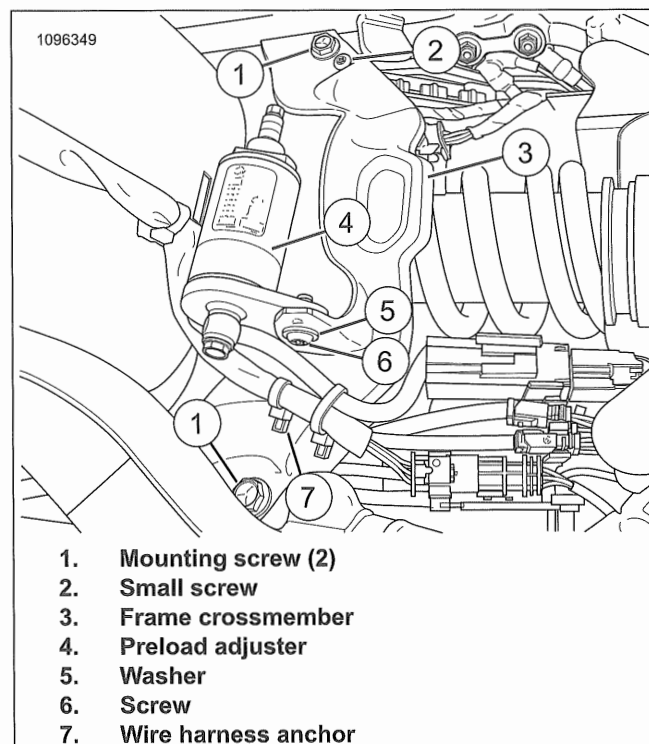

Figure 3-147. Frame Crossmember
1. See Figure 3-147. **If equipped with hydraulic under seat adjust shock:**
- a. Remove screw (6) and washer (5).
- b. Move preload adjuster (4) forward.
2. Remove wire harness anchor (7).
3. Remove small screw (2).
4. Remove mounting screws (1).
5. Remove frame crossmember (3).
1. See Figure 3-147. Install frame crossmember (3).
2. Install small screw (2) hand tight.
3. Install mounting screws (1). Tighten.